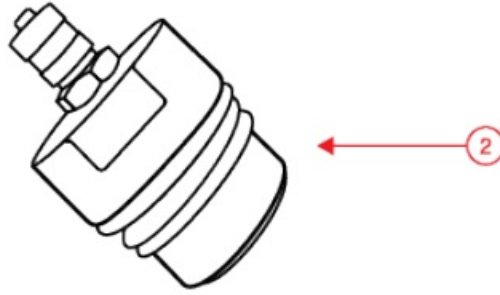

Figure 12: Adapter Valve for Airbag Integrity Test
(1) on your own and the User MUST contact Alpinestars Tech-Air® Sup-port (see section 9 below). and/or an Authorized Alpinestars' Dealer or Service Center.
To perform the Airbag Integrity Test the User needs the Adapter Valve for the Airbag Integrity Test (2) reported in Figure 12, which is provided by Alpinestars either with the System or with the Gas Inflator Replacement Kit as additional equipment.